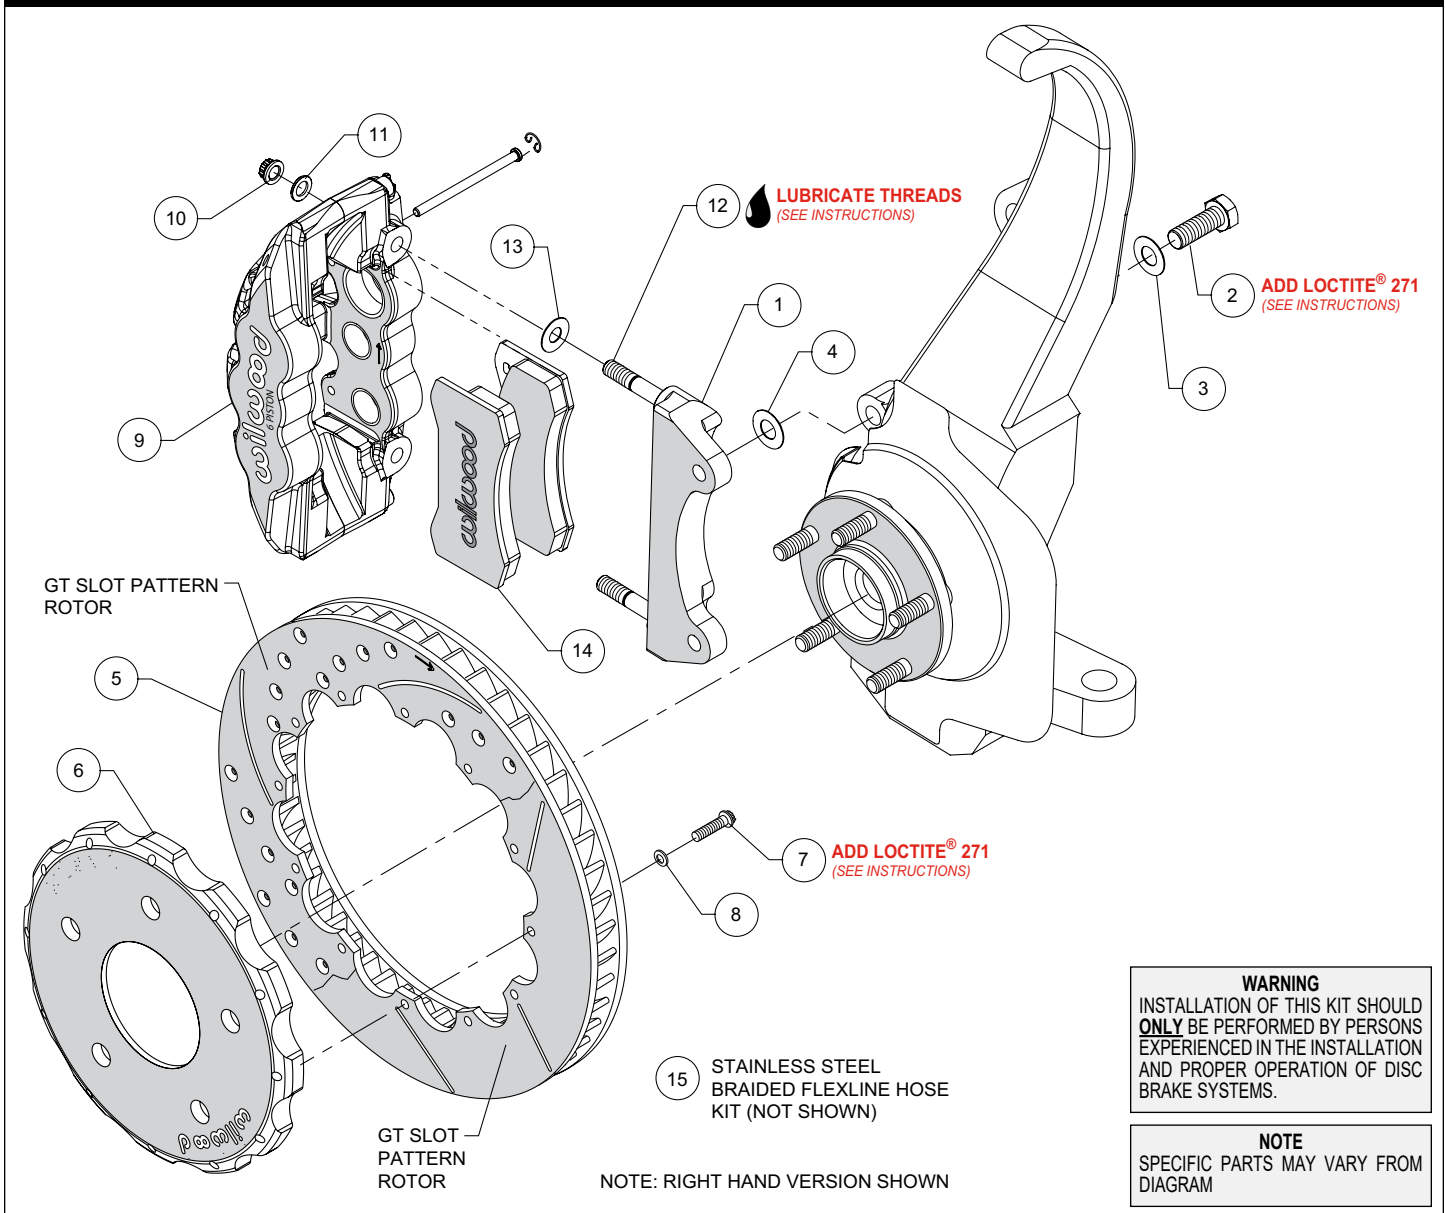
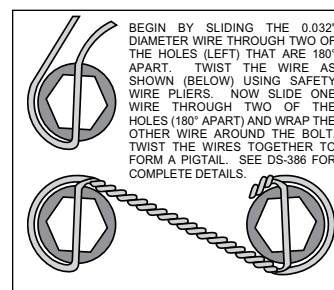

Figure 1. Typical Installation Configuration
Figure 4. Safety Wire Diagram
Assembly Instructions (numbers in parenthesis refer to the parts list and Figure 1 on the preceding pages):
•The caliper mount bracket (1) should initially be installed with clean, dry threads on the mounting bolts. Orient the bracket as shown in Figure 1 and Photo 1, and install using bolts (2) and washers (3). Initially place one .029 thick shim (4) on each bolt between the bracket and upright, Figure 1. Temporarily tighten the mounting bolts. **NOTE:** The bracket must fit squarely against the mounting points on the upright. Inspect for interference from casting irregularities, machining ridges, burrs, etc. Later, after the caliper alignment has been checked, the mount bolts will be secured using red *Loctite*® 271.
•Orient the rotor (5) and the hat (6) as shown in Figure 1 and Photo 2. Attach rotor to hat using bolts (7) and washers (8). Apply red *Loctite*® 271 to the bolt threads and torque to 155 in-lb using a criss-cross pattern. For an added measure of security, the bolts may be safety wired using standard 0.032 inch diameter stainless steel safety wire as shown in Figure 4. Please refer to Wilwood's data sheet DS-386 (available at www.wilwood.com/Pdf/DataSheets/ds386.pdf) for complete safety wire installation instructions.
•**NOTE:** This kit contains distinct right and left hand calipers that must be mounted in a specific direction, as described below. Lubricate the caliper mounting studs (12) with lightweight oil. Initially place one .030" thick shim (13) on each stud between the caliper and the bracket, as shown in Figure 1 and Photo 3. Mount the caliper (9) onto the bracket (1) using lock nuts (10) and washers (11), Figure 1. Ensure that the caliper is mounted so the largest pistons are at the rotor exit end of the caliper, in relation to the direction of rotor rotation. Temporarily tighten the lock nuts and view the rotor through the top opening of the caliper. The rotor should be centered in the caliper, Photo 4. If not, adjust by adding or subtracting shims (4) between the bracket and the upright. Always use the same amount of shims on each of the two mounting bolts. Once the caliper alignment is correct, remove the bracket mounting bolts (2) one at a time, apply red *Loctite*® 271 to the threads, and torque to 77 ft-lbs.
- Remove the two pad retaining pins from the caliper (9) by carefully popping out the pin retaining clips and sliding out the pins. Insert the brake pads (14) into the caliper from the bottom, Figure 1 and Photo 5. With the friction material facing the rotor, secure the brake pads in place with the pad retaining pins and clips, Photo 6. Reinstall the caliper onto the caliper mounting bracket and temporarily tighten the lock nuts (10). Check that the top of the brake pad is flush with the outside diameter of the rotor, Photo 7. If not, adjust by adding or subtracting shims (13) between the caliper and the bracket. After the caliper pad height is set, torque the caliper lock nuts (10) to 47 ft-lb.